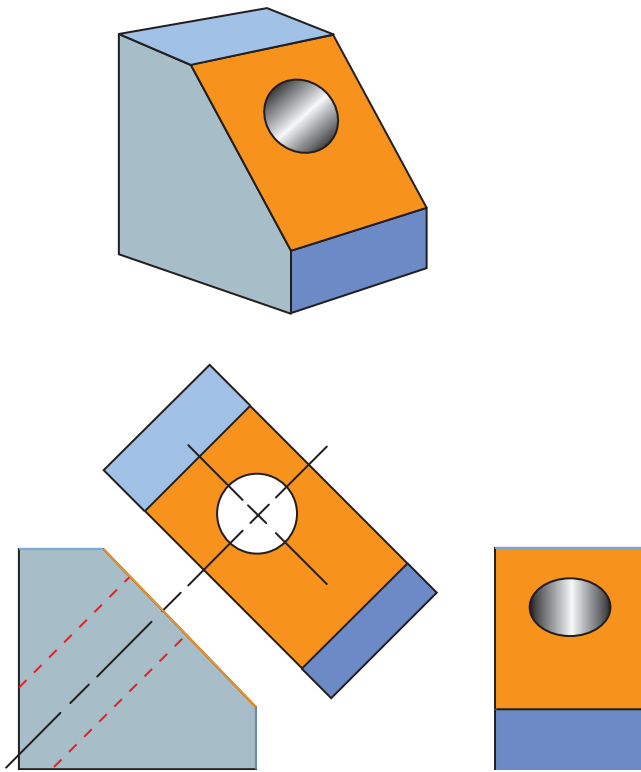

FIGURE 17-26 Notice that the round hole looks misshapen, or elliptical, in the right side view.
- **Rotated views:** A rotated view can be used to show a surface of the part that would not normally be drawn square to any of the six normal view planes. If a surface is not square to the viewing angle, then lines may be distorted. For example, when viewed at an angle, a circle looks like an ellipse, **Figure 17-26**.